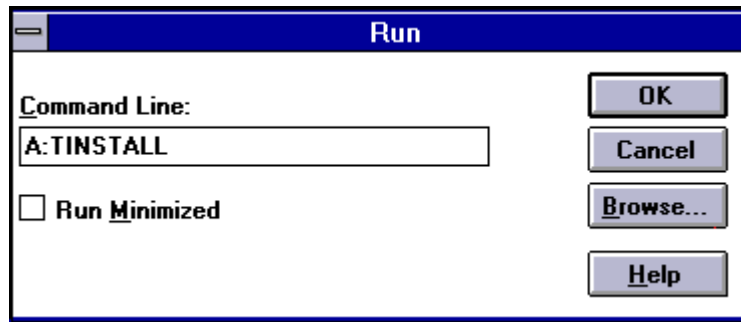

Figure 5-1 Running the TINSTALL Program
5. Type in A:TINSTALL (if the display driver disk is in the B drive then type in B:TINSTALL) and then press <Enter> (Figure 5-1).